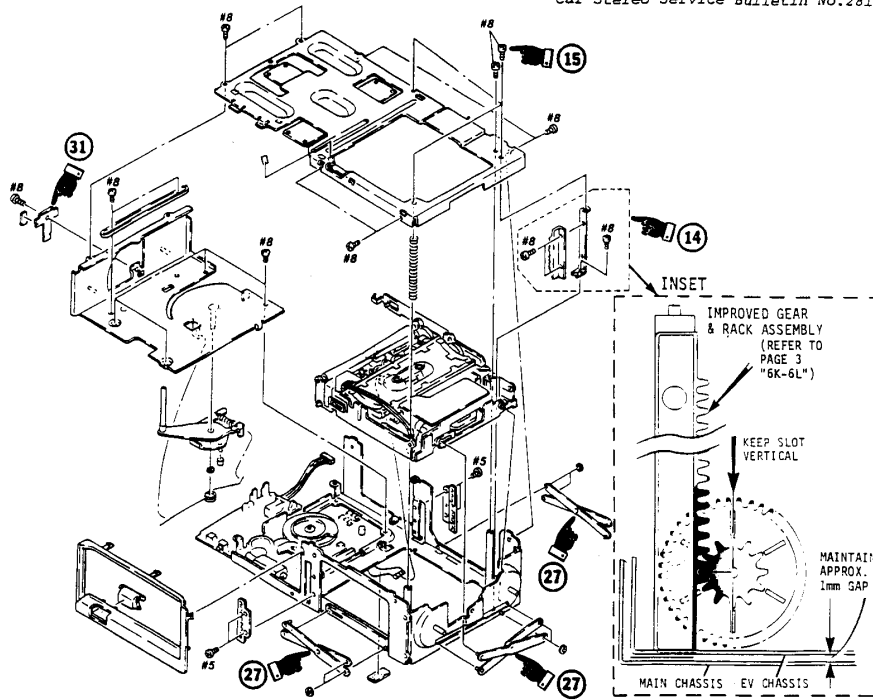

FIG.5
6K- Rotate the elevator motor shaft until any slot on the EV gear is facing straight up (refer to inset, figure 5).
6L- Install the improved rack assembly (figure 5, item 14; bag "A"). There should be approximately 1mm of space between the bottom of the EV chassis and the main chassis. After tightening the screw which secures the rack assembly, verify that the slot on the EV gear is still facing straight up (refer to inset, figure 5).
7A- Remove the heat sink (figure 5, item 31) from the right side of the chassis.
9D- Install the chassis top cover. Use an improved screw (figure 5, item 15; bag "A") to secure the top cover to the improved rack assembly. Apply locking compound to all of the screws which secure the chassis top cover.